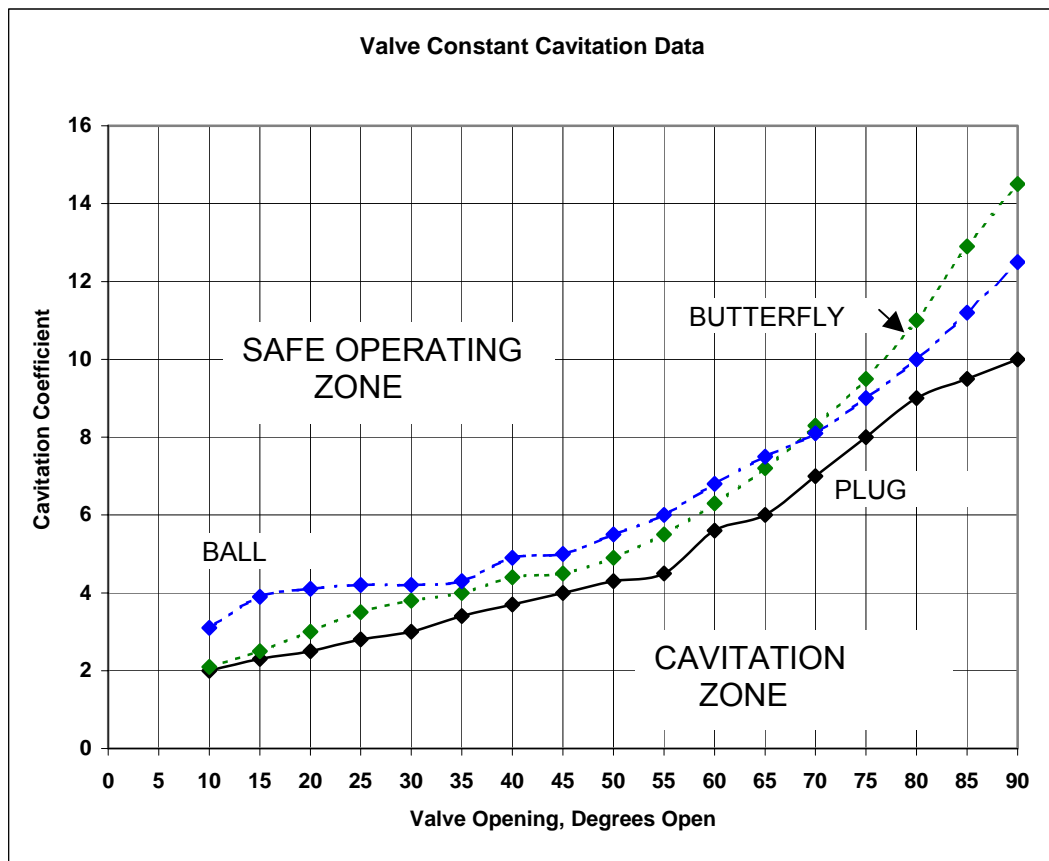
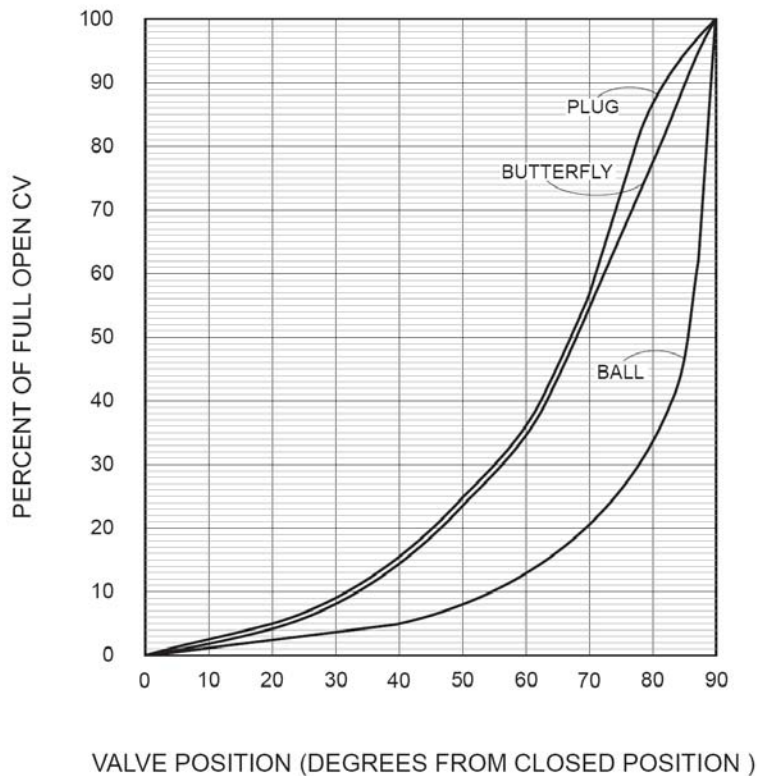

Figure 2. Cavitation Characteristics of Valves
Figure 3. Flow Characteristics of Valves
Finally, by finding this percentage on the vertical axis of the flow characteristic graph, the valve position in degrees open can be read off of the graph in Figure 3 and used to plot the cavitation index in Figure 2. If the point falls below the applicable valve curve, then serious cavitation may occur.
Referring to the plug valve characteristic curve in Figure 3, the throttling angle will be 22 degrees open.
4. Plot the cavitation index of 4.2 on the cavitation graph (Figure 2) with 22 degrees on the x axis. The point is above the cavitation line and is in the "Safe Operating Zone", so cavitation will not be a problem.